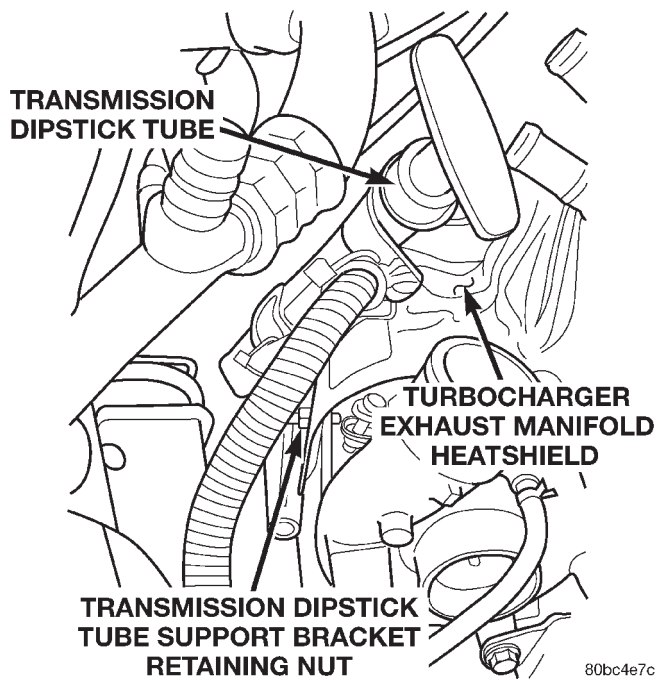

Fig. 20 Transmission Dipstick Tube Support Bracket
(10) Remove the transmission dipstick tube support bracket nut from the turbocharger heatshield (Fig. 20).